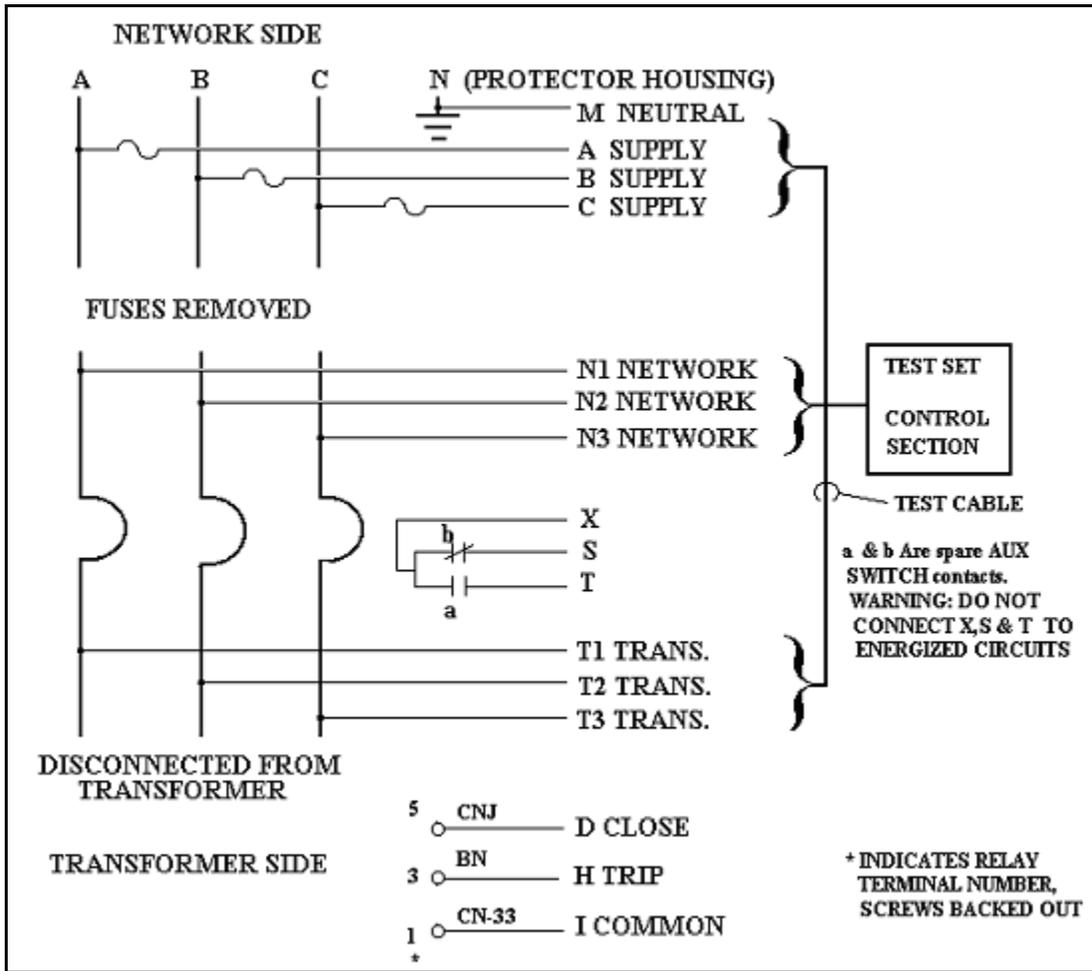

FIGURE 9. Test Connections for Westinghouse Mechanism Operation Test
1. Make test connections per Figure 9. Switch the INPUT SEL Switch to the appropriate position (depends upon input voltage being used), POWER ON Light should glow.